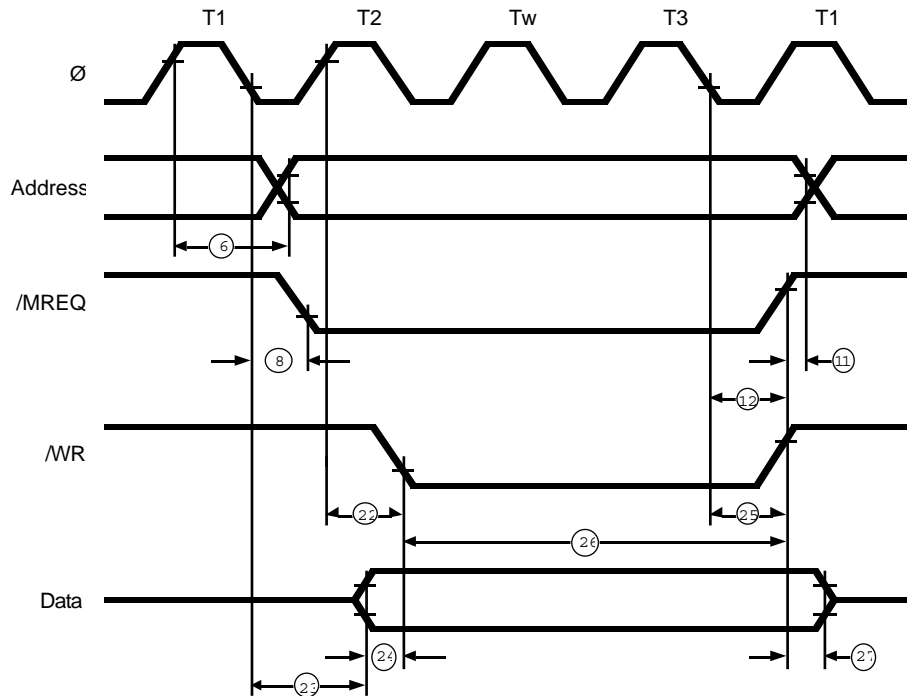

Figure 3. Z180 Memory Write Cycle Timing (One Wait State)
- Memory write cycle (Figure 3 on page 7)